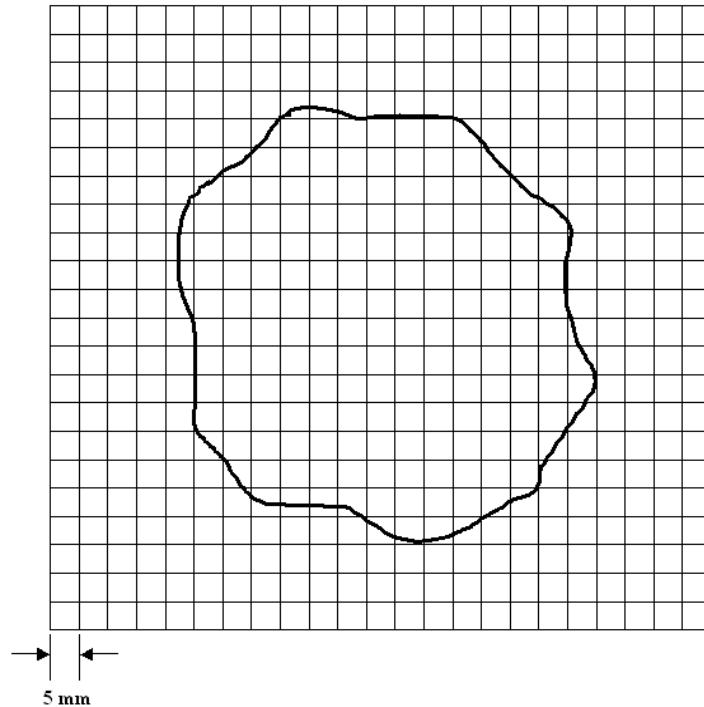

Figure 3[a]
3. [a] Estimate the roundness error for the trace shown in Figure 3[a] below if the magnification is 200X using the (i) LSC method, (ii) MCC method and (iii) MIC method. Choose any point within the trace as initial datum.